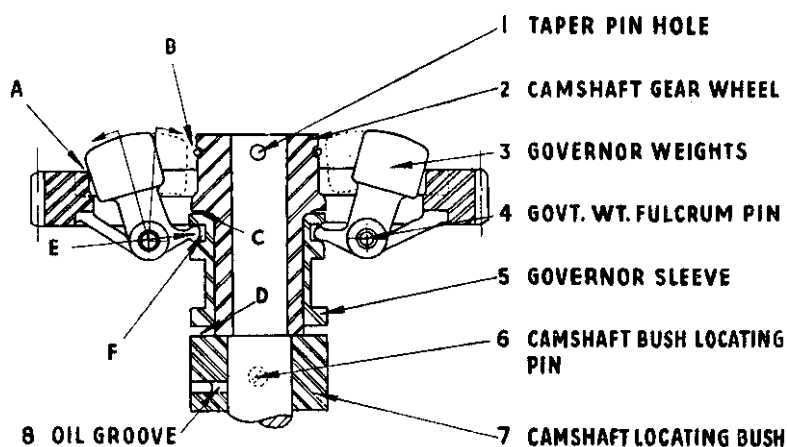

Fig. 6
Refer to Fig. 6.
- i. Fit the governor sleeve (5) as shown in Fig. 6, ensuring that it moves freely on the boss of the wheel and does not stick against face (C). Remove the sleeve.
- ii. Fit weights (3) so they also are free without much side play, 3 thous. (.003") max.
- iii. Then, one weight at a time, fit the weight and the sleeve, engaging weight point (E) with sleeve point (F).
- iv. Ensure that the weight clears the wheel at point (A) when the sleeve (5) is in contact with face (C). Allow a minimum clearance of $\frac{1}{16}$ ". The weights **SHOULD NOT BE ADJUSTED**, but clearance made by chipping and filing the gearwheel as required.